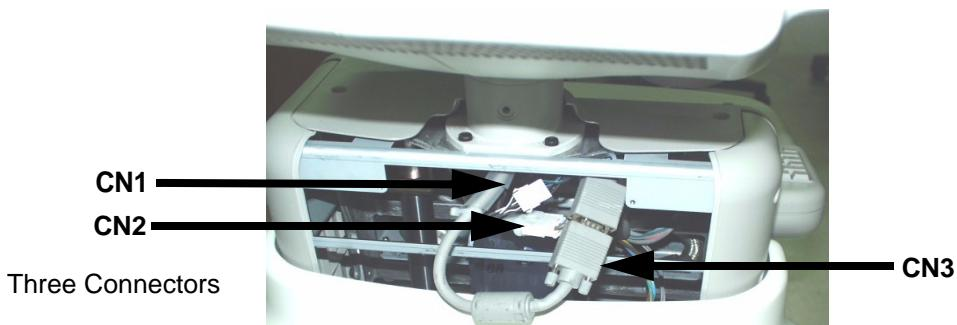

Figure 8-2 Disconnect three(3) connectors
- 3.) Remove 3Connectors (CN1 - CN3) from the Monitor. Refer to Figure 8-2.